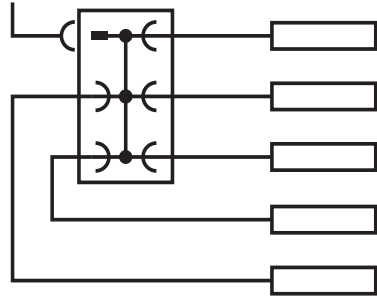
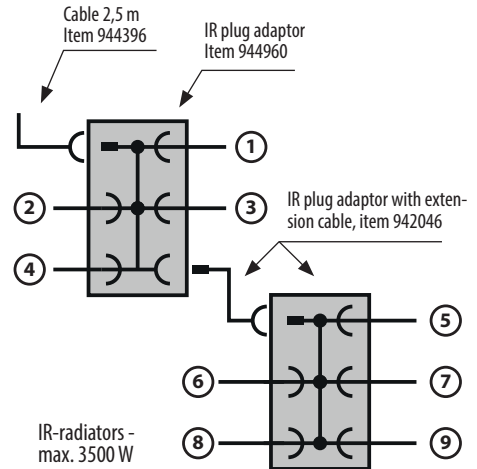

Fig. 2
Fig. 2b
By connection of several IR radiators to one common line an optional plug adaptor (item 94.2046) should be used (fig. 2). Up to 2 such plug adaptors can be connected to each other (fig. 2b).